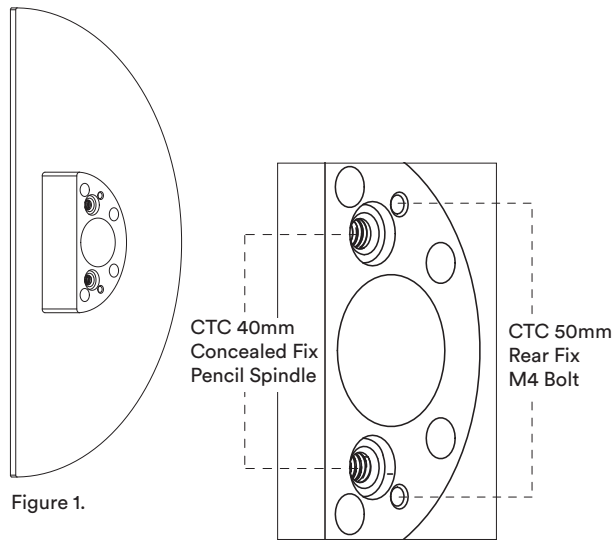

Figure 1.
- 1.1. This is the distance from the middle of the top fixing point to the middle of the bottom fixing point. If unsure, this measurement can be found on our website. (Figure 1)